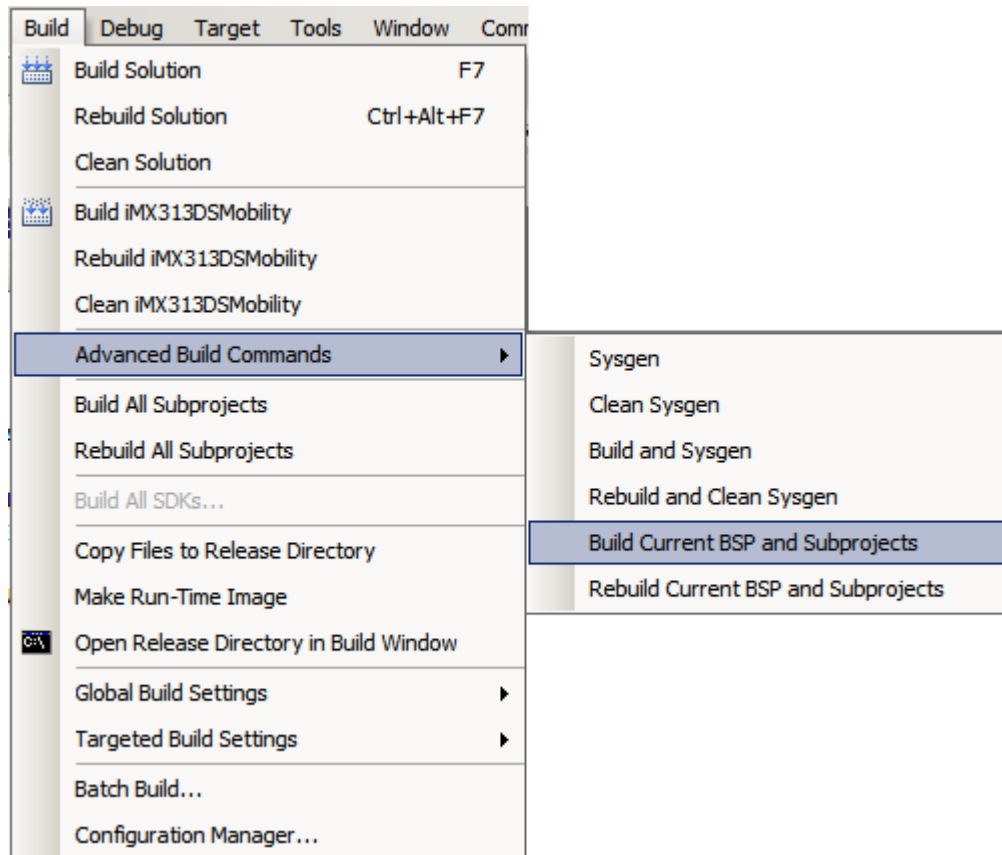

Figure 4-3 Incremental BSP Build Libraries
4. Click **Build > Advanced Build Commands > Build Current BSP and Subprojects** to perform an incremental build of the BSP platform directory (including the SoC libraries) and complete the creation of an OS image (Figure 4-3).